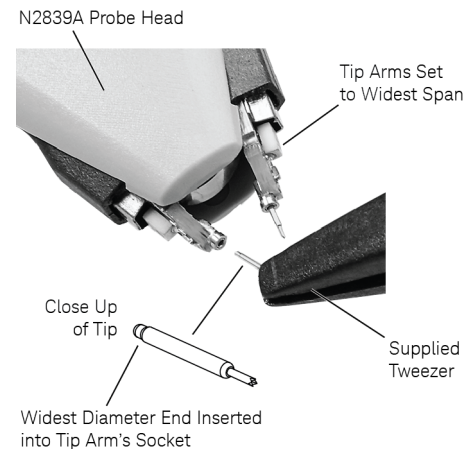

Figure 4 Inserting a tip
- 3 Pick up a new tip using the supplied tweezers. Identify the correct end to insert into the tip arm. See Figure 4. The end of the tip that has the widest diameter is inserted into the socket on the tip arm.